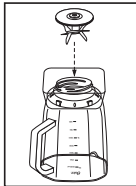

Fig. 16
3. Turn the blade with sealing ring upside down and place into the bottom of the jar (Fig. 16).